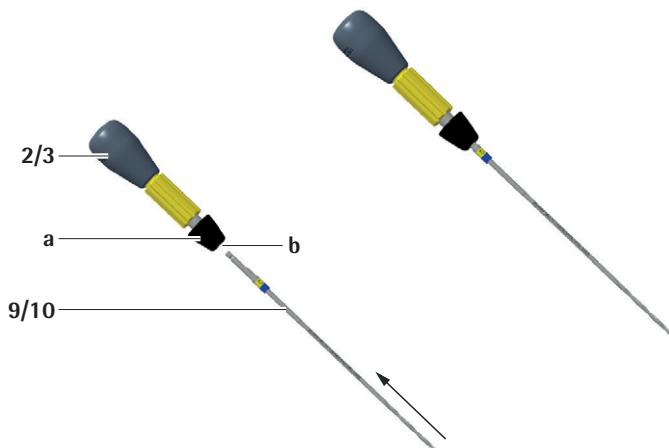

Fig. 2
- ▶ Mount the drill on the chosen handle. To insert the drill 9/10 (SZ019SU/SZ019R, SZ020SU/SZ020R) in the handle 2/3 (SZ002R/SZ003R), see Fig. 2:
- Pull back the locking sleeve a, see Fig. 2.
- ▶ Attach the drill to the handle, see Chapter 3.3.1, see Fig. 2.